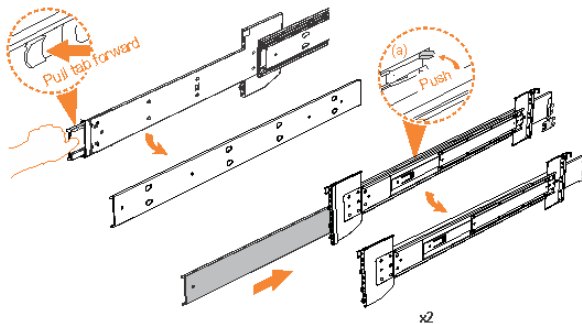

Figure 46. Detaching the inner rail section
3. Remove the inner member of the rail. Push the tab (a) and slide the middle rail member back, as shown in Figure 46 on page 82.